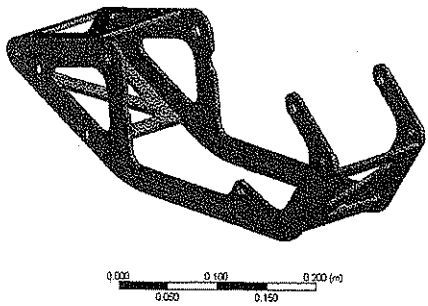
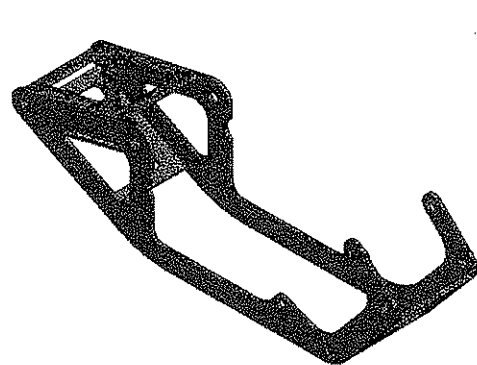
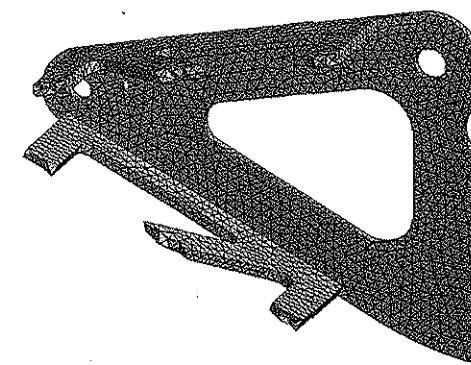

Figure 8-4 Mesh generated with global mesh control settings
Figure 8-7 Mesh generated with local settings
Figure 8-9 Partial view of the sectioned model with a closer look at the elements formed
- 13. Next, choose the **Generate Mesh** option from the shortcut menu; the mesh with the specified global control settings is generated, as shown in Figure 8-4.
7. Choose the **Update** tool from the **Mesh** contextual toolbar; the mesh with local mesh control is generated, as shown in Figure 8-7.
Note that the total number of elements in this case is 42,781 which is more than 38,550. Also, if you compare Figures 8-4 and 8-7, you will notice that even though the element count does not seem to grow very fast numerically, the actual number of elements in the model has increased, refer to Figure 8-7.
You can have a close look at the shape and sizes of the elements by using the tools available in the **Graphics** toolbar. You will notice that the sizes of elements have changed. You can also compare the mesh result of Figure 8-9 with that of Figure 8-4 to note the difference.